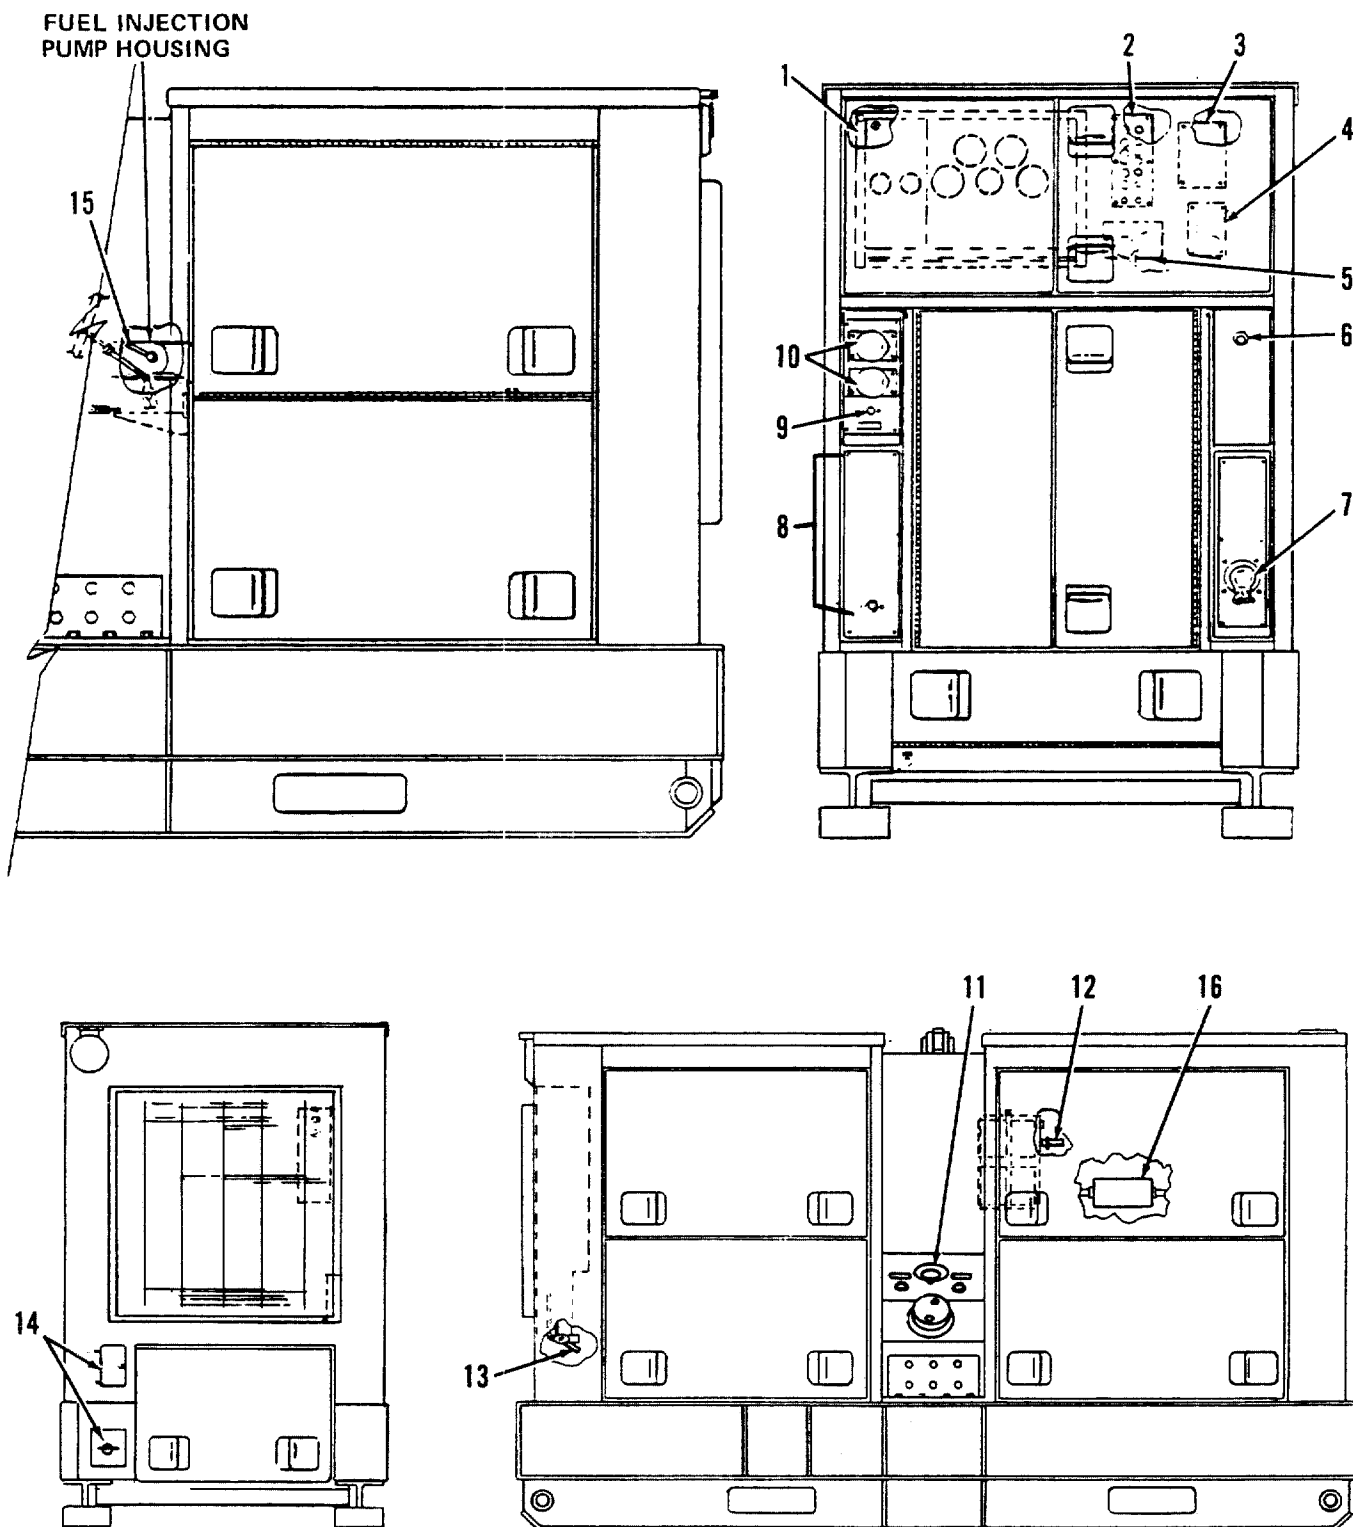
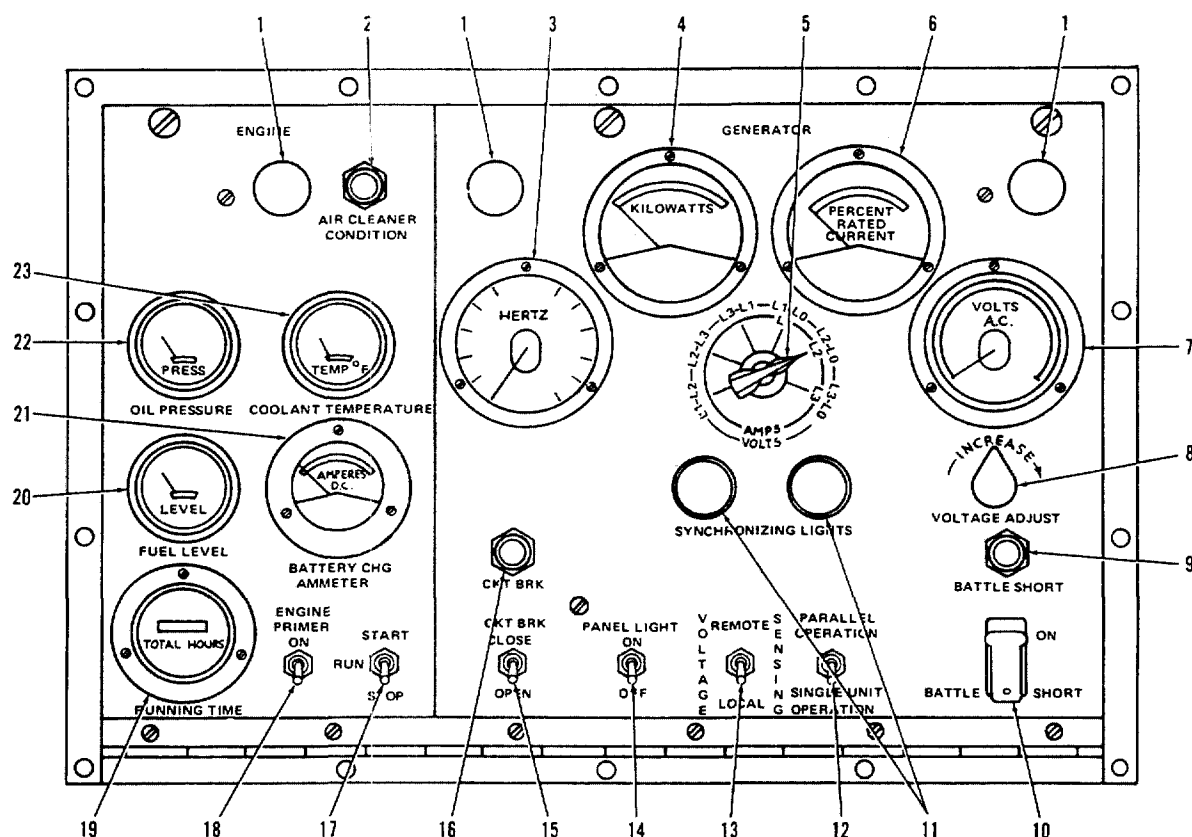

Figure 2-1. Location of Controls, Instruments, and Receptacles
Figure 2-2. Control Cubicle, Controls and Indicators
2-1. GENERAL. This section provides information on how to operate the generator set under normal conditions. Conditions other than those covered in Section III of this chapter and where the generator set is functioning properly are considered normal. The location and function of the controls and indicators necessary for operating the generator set are presented in figures 2-1 through 2-3 and tables 2-1 through 2-3. The purpose of these figures and tables is to enable the operator to become generally familiar with these controls and indicators prior to actually operating the equipment. Take the time to study these figures and tables while inspecting the actual equipment. The knowledge gained will greatly improve your ability to operate the generator set. The step-by-step operating instructions for starting the generator set are presented beginning with figure 2-4. The operating procedures are followed by detailed instructions on how to apply an electrical load to the generator, and then by procedures for stopping the generator set. If equipment malfunctions, refer to the troubleshooting and maintenance procedures in Chapter 3.
2-2. CONTROLS AND INDICATORS. The purpose, location, and normal operating readings or settings of generator set controls and indicators are illustrated in figures 2-1 through 2-3 and described in tables 2-1 through 2-3.
- e. Set the fuel transfer valve (11, figure 2-1) to desired source of fuel: preferably the, AUXILIARY tank, if it is connected.
- f. Set PARALLEL OPERATION-SINGLE UNIT OPERATION select switch (12, figure 2-2) to SINGLE UNIT OPERATION.
- g. Set VOLTAGE ADJUST-INCREASE control (8, figure 2-2) to lower half of adjustment range.
- h. Depress DC CONTROL CIRCUIT BREAKER (5, figure 2-1) to on position.
- i. Set START-STOP-RUN switch (17, figure 2-2) to RUN.
l. Set CKT BRK-CLOSE-OPEN switch (15, figure 2-2) to OPEN.
m. Push and release AIR CLEANER CONDITION indicator (2, figure 2-2), BATTLE SHORT indicator (9, figure 2-2), and CKT BRK indicator (16, figure 2-2). Each should light and go out when released.
(1) If AIR CLEANER CONDITION indicator remains lit, service the air cleaner. Refer to paragraph 3-16a.
(2) If CKT BRK indicator remains lit after setting CKT BRK switch to OPEN, refer to appropriate level of maintenance as described in the Maintenance Allocation Chart (MAC).
n. Depress lock button on manual engine speed control (6, figure 2-1) and set to mid-range position.
a. Ensure that PARALLEL OPERATION-SINGLE UNIT OPERATION switch (12, figure 2-2) is set to SINGLE UNIT OPERATION.